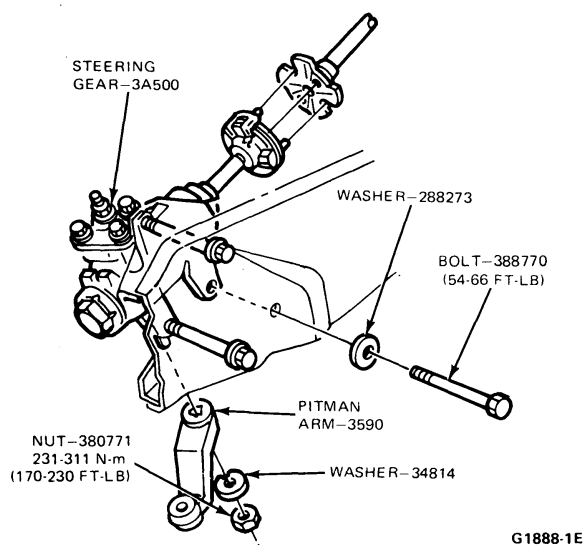

FIG. 5 Steering Gear Installation—F-100, 250 and 350 (4x2), Bronco
2. Disconnect the flex coupling from the steering shaft flange by removing the two attaching nuts (Fig. 5 or 6).
1. Install the flex coupling on the worm (input) shaft of the gear assembly (Fig. 5 or 6). **Install a new coupling-to-gear attaching bolt** and tighten to 15-28 N·m (11-21 ft-lbs).
3. Position the steering gear assembly so that the stud bolts on the flex coupling enter the bolt holes in the steering shaft flange, and the holes in the mounting bosses of the gear match the bolt holes in the frame side rail (Fig. 5 or 6).